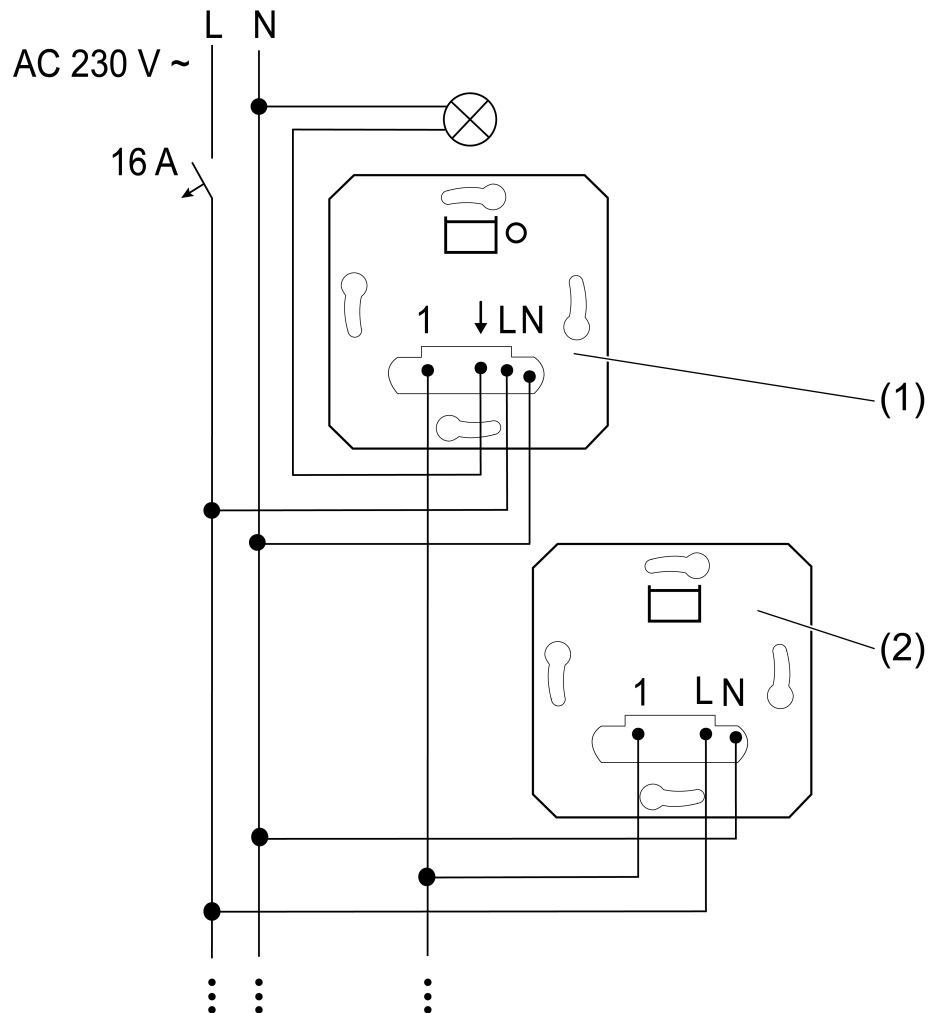
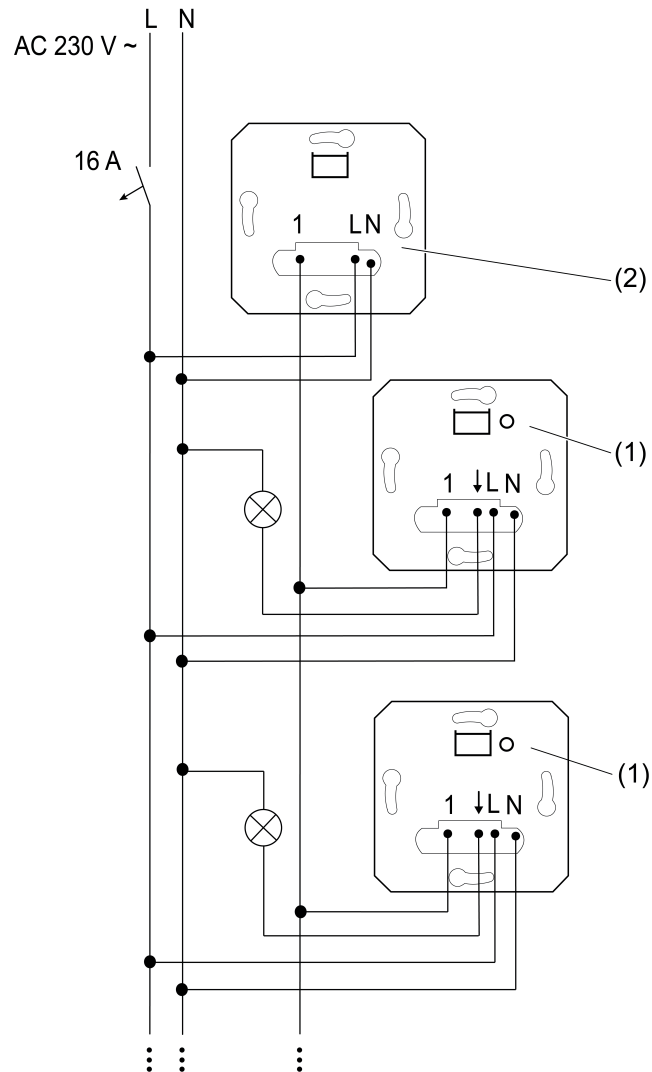
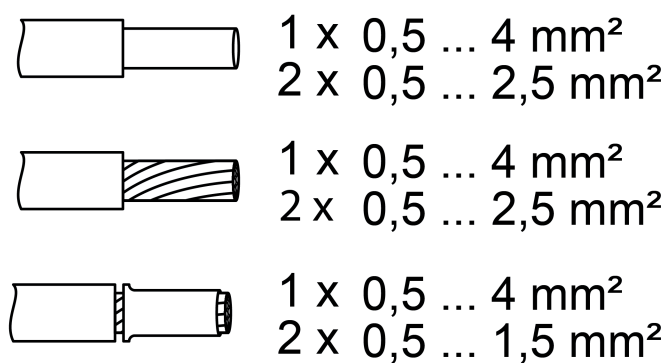

Figure 1: Connection diagram 3-wire extensions on a main device
Figure 2: Connection diagram for multiple main devices to a 3-wire extension for the central control
Figure 3: Clampable cable cross-sections
**i** Up to five 3-wire extensions (2) can be connected to a main device (1) (Figure 1).
- i** Up to five identical or different main devices (1) can be controlled together by a 3-wire extension (2) (Figure 2).
- Connect extension (2) according to connection diagram (Figure 1) and (Figure 2). Note clampable cable cross-sections (Figure 3).